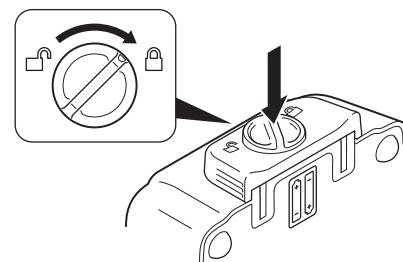

Figure 70 – Close/Lock Battery Compartment Door
- Close the door and turn the knob to lock the battery compartment door (Figure 70).